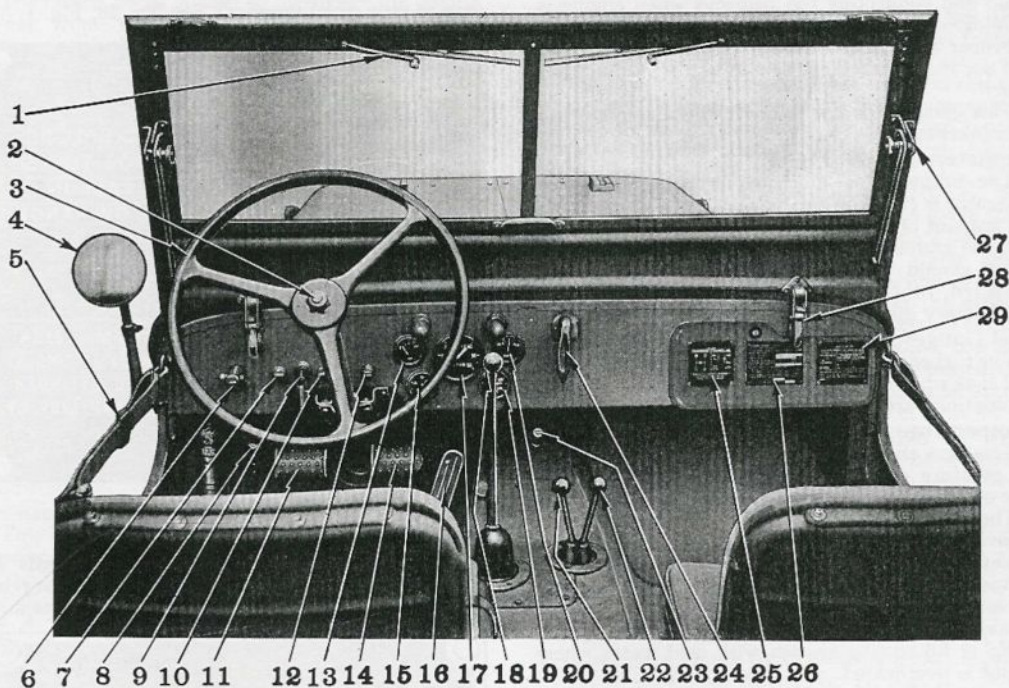

FIG. 1—CONTROLS
### Ignition Switch—No. 9, Fig. 1
### Light Switch—No. 6, Fig. 1
### Panel Light Switch—No. 12, Fig. 1.
### Head Lamp Beam Control Switch—No. 8, Fig. 1
### Starter Switch—No. 23, Fig. 1
### Hand Throttle—No. 10, Fig. 1
**Carburetor Choke Control—No. 7, Fig. 1**
**Oil Gauge—No. 15, Fig. 1**
**Ammeter—No. 20, Fig. 1**
**Fuel Gauge—No. 13, Fig. 1**
**Temperature Indicator—No. 19, Fig. 1**
**Speedometer—No. 17, Fig. 1**